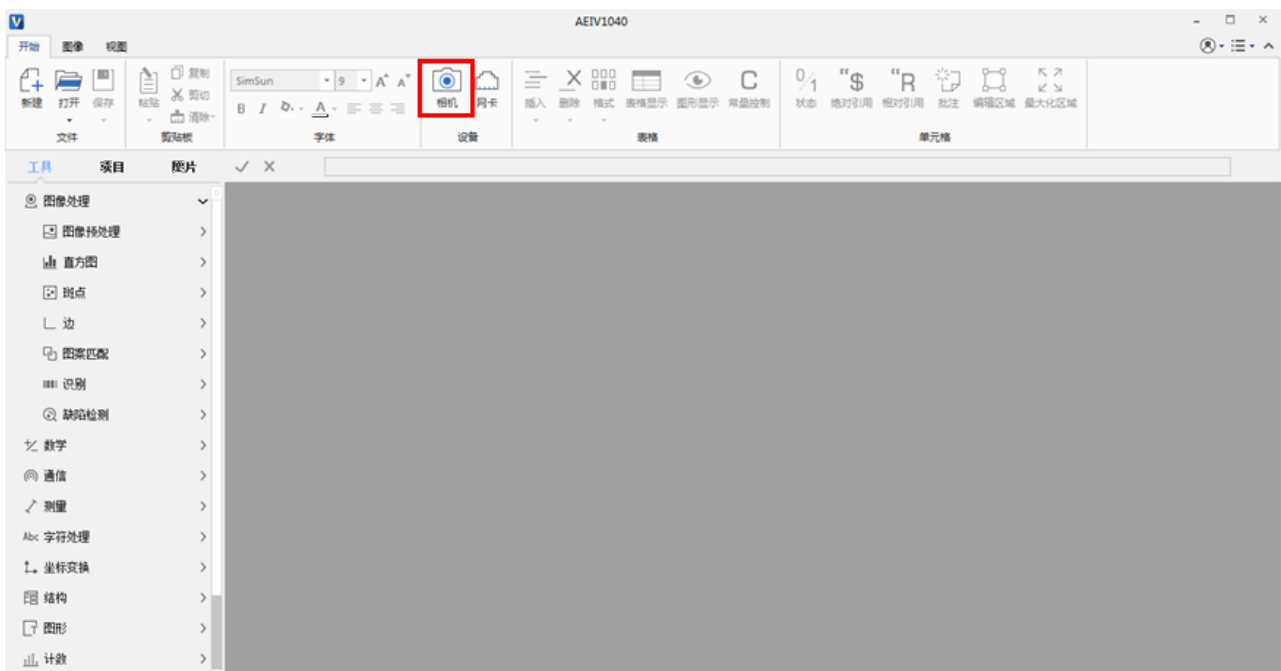

Figure 5-19 AEIV_studio software interface
Step7. Open the visual software. Here we take Peitian's AEIV_studio software as an example for explanation. The main interface is shown in Figure 5-19. Click <Camera> to check whether the calibration board is in the center of the field of view on the main interface.